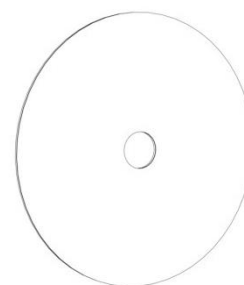

Fig.13
2. The component 2 (Fig.13) is the wheel effect, namely the effect type of choice (snow effect, musical notes effect, etc.)